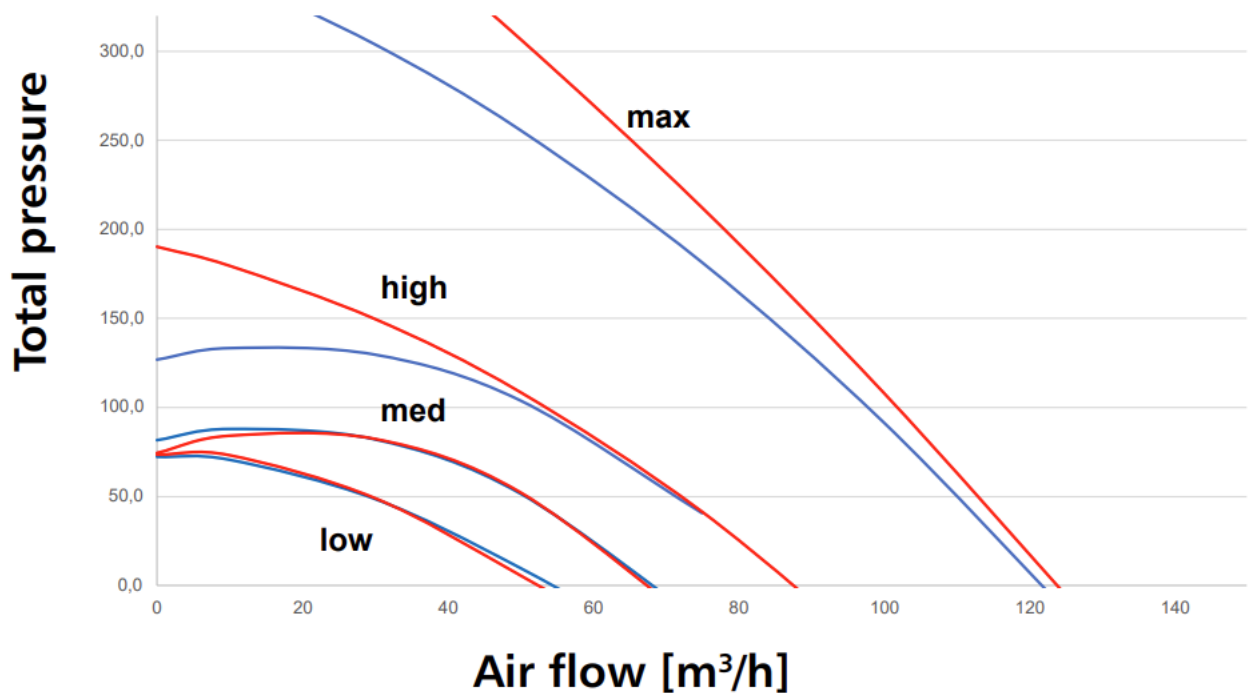

Figure 5 Total pressure for HRU-FlatAIR-100E
- HRU-FlatAIR-100E-H 100 m3/h (at 100 Pa) [Fig. 5]